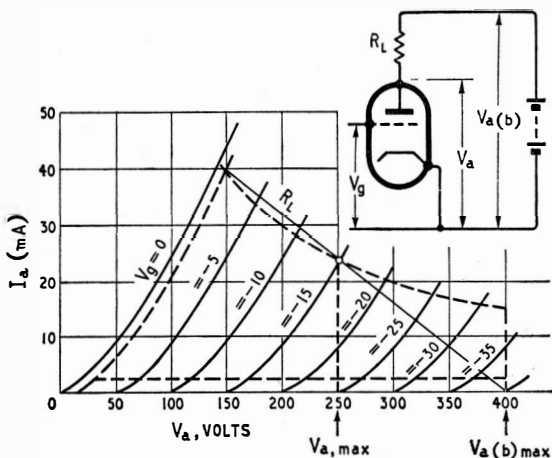

Fig. 7. The Fig. 6 curve sheet with load line added, through the working point (encircled).
us say) is 250V. And if the load were to be a resistance, fed from the maximum supply voltage (400) it would be represented by the sloping line through O and 400V 0mA, as in Fig. 7. From its slope we find it is 6,250 $\Omega$ . We note that the working point is on the " $V_g=-15$ " curve, so that is the grid bias. And if we allow the signal input to swing the grid right up to 0 and down to  $-30$ , the load line shows that the corresponding  $V_a$  swing is between 140 and 350 (= 210 peak-to-peak) and  $I_a$  is 41.6 and 8 (= 33.6 peak-to-peak). The voltage amplification is therefore 210/30 = 7. The power output (into the resistance) is equal to the r.m.s. signal voltage multiplied by the r.m.s. signal current, and since an r.m.s. value is  $1/\sqrt{2}$  times a peak value, which in turn is half the peak-to-peak value, this power is equal to peak-to-peak  $V_a \times I_a$ , divided twice by  $2\sqrt{2}$ , that is to say by 8. So it is  $(210 \times 0.0336)/8 = 0.88W$ .
For a power amplifier, on the other hand, one wants to get the power out into some external load, such as a loudspeaker, not waste it all in a resistance coupling. The coupling is done by a transformer, which has very little—perhaps negligible—d.c. resistance, but considerable signal-frequency resistance. The usual procedure would be to place the working point as already done in Fig. 7, and then draw from it to the voltage scale a line representing the d.c. resistance of the transformer or choke coupling. Being such a low resistance, the line would be almost vertical, and the resulting  $V_{a(b)}$  indicated by where it cut the  $V_a$  scale would be only slightly more than the working  $V_a$ .
The *a.c.* load line need not touch the  $V_a$  scale at any particular point such as  $V_{a(b) \max}$ ; it should be swung round O as a pivot until it indicates the maximum output. The output power is represented by one-eighth of the area of the rectangle of which the load line is a diagonal. If the load line slopes too little, this rectangle is too flat to have much area; if the line slopes too steeply the rectangle is too narrow. The length of the load line diagonal must be equal in both directions from its pivot at O, and must not go beyond the grid-current or bottom-bend boundaries. The 6,250 $\Omega$  line in Fig. 7 is unlikely to give the largest area because an input signal limited at its positive peak by grid current leaves quite a lot of useful space between its negative peak and the bend boundary. A more promising line would be steeper, indicating a lower load resistance; drawn, in fact, from the point